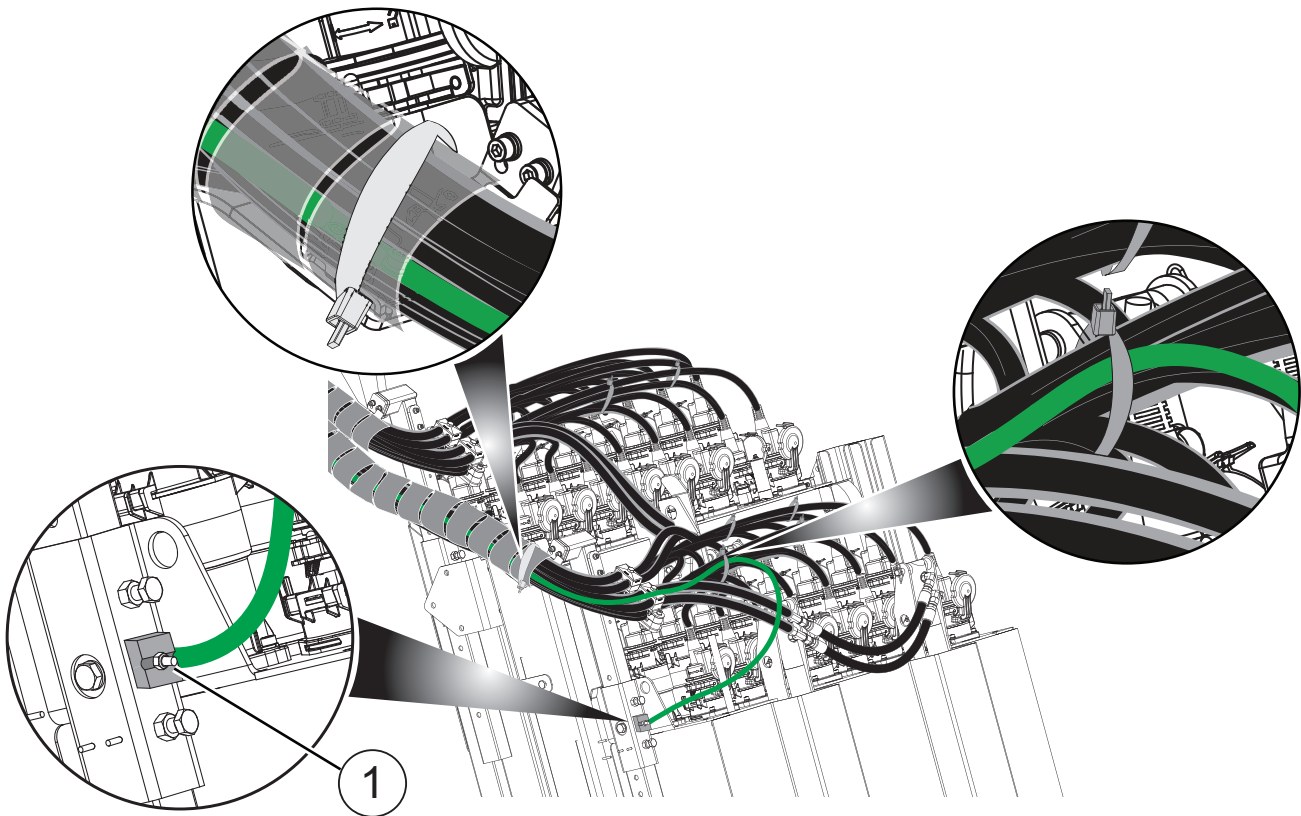

Figure 10 Bonding Post
1. Install a bond wire onto the UV Bank and route the bond wire to corresponding PDC. Refer to Layout Drawing and Figure 10.